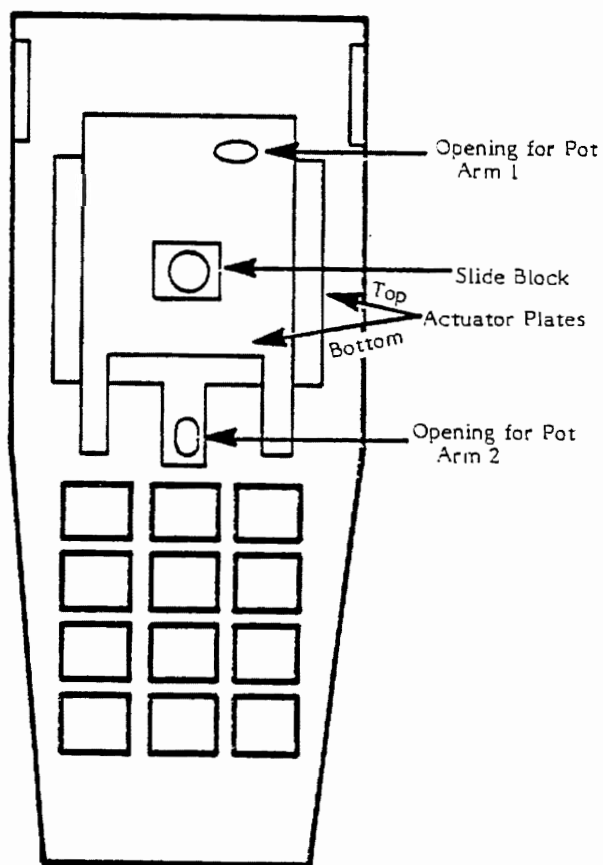

Figure 6-5. Controller Top (Underside)
NOTE: The actuator plates **must** be replaced as a complete unit which includes the two actuator plates and the slide block (see Figure 6-5).
- The actuator plates are correctly positioned in the top controller case (refer to Figure 6-5).
- The pot arms are set into the holes in the actuator plates (refer to Figure 6-5).